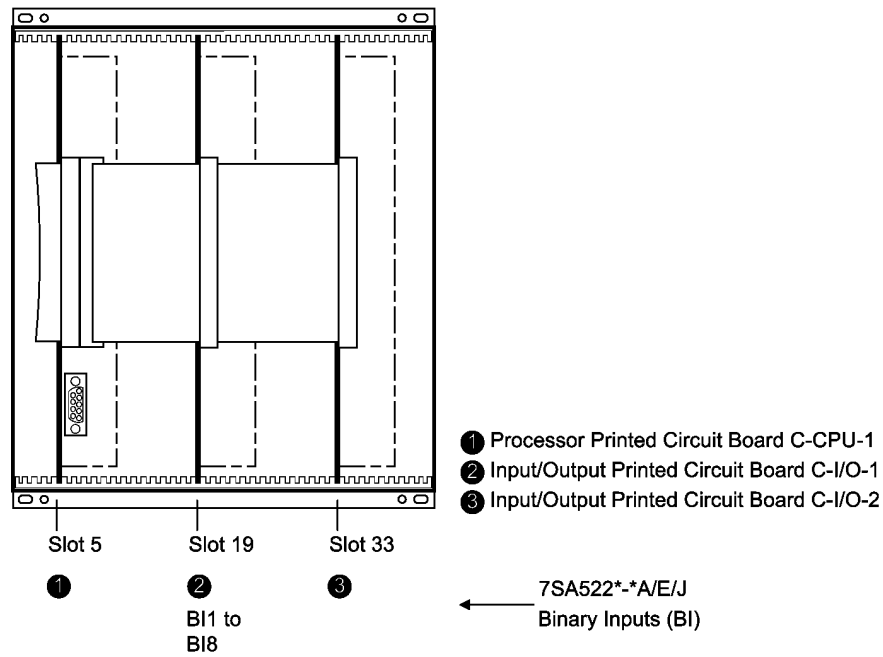
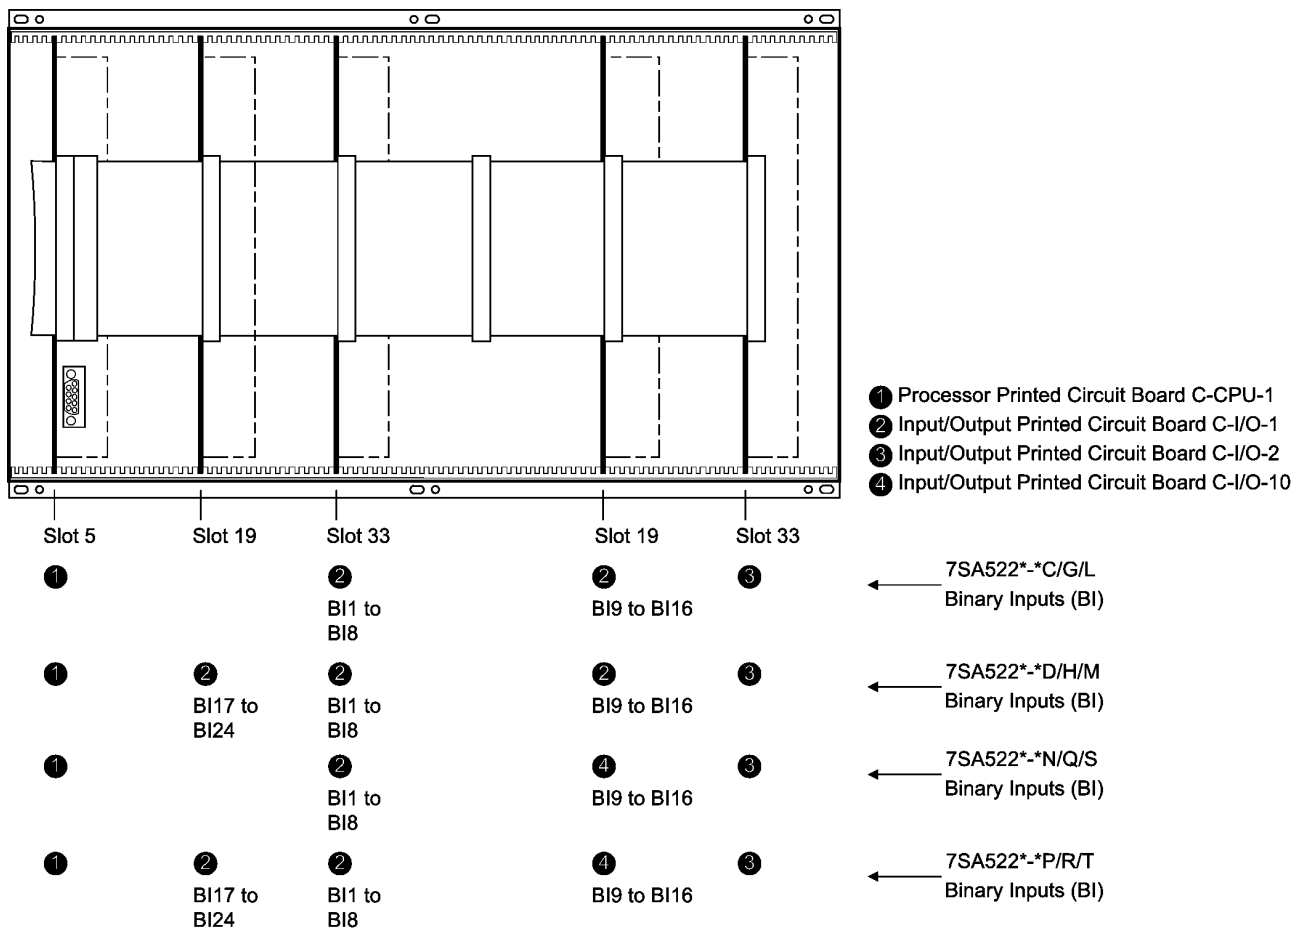

Figure 3-3 Front view with housing size $\frac{1}{2}$ after removal of the front cover (simplified and scaled down)
Figure 3-4 Front view with housing size $\frac{1}{4}$ after removal of the front cover (simplified and scaled down)
The arrangement of the boards for housing size $\frac{1}{2}$ is shown in Figure 3-3 and for housing size $\frac{1}{1}$ in Figure 3-4.
- Disconnect the plug connector of the ribbon cable between the front cover and the processor board C-CPU-1 (No. 1 in Figure 3-3) at the front cover side. Press the top latch of the plug connector up and the bottom latch down so that the plug connector of the ribbon cable is pressed out.
- Disconnect the ribbon cables between the processor board C-CPU-1 (No. 1 in Figure 3-3) and the input/output board I/O (according to order variant No. 2 to No. 4 in Figure 3-3).
- On the input/output board C-I/O-1 (No. 2 in Figure 3-3, slot 19) for housing size $\frac{1}{2}$,
- On the input/output board C-I/O-1 (No. 2 in Figure 3-4, slot 33 left) for housing size $\frac{1}{1}$,
- In versions 7SA522*-***D/H/M** (housing size $\frac{1}{1}$ with 32 binary outputs) this is valid for the binary outputs BO16 and BO24 (Figure 3-4, slot 19 left and right);
- In versions 7SA522*-***C/G/L** (housing size $\frac{1}{1}$ with 24 binary outputs) this is valid for the binary output BO16 (Figure 3-4, slot 19 right);
- In versions 7SA522*-***P/R/T** (housing size $\frac{1}{1}$ with 32 binary outputs and command acceleration) this is valid for the binary output BO24 (Figure 3-4, slot 19 left).
with housing size $1\frac{1}{2}$: No. 3 in Figure 3-3, slot 33
with housing size $1\frac{1}{4}$: No. 3 in Figure 3-4, slot 33 right.
with housing size $1\frac{1}{1}$: No. 3 in Figure 3-4, slot 33 right.